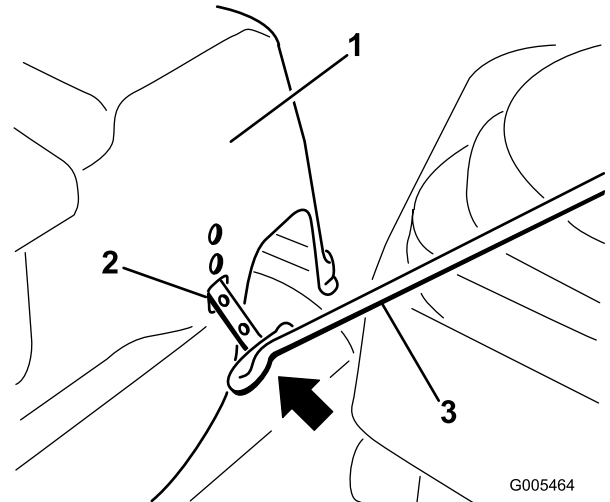

Figure 2
1. Locate the square opening on the interior side of the right hand pod. Insert the end of the cover rod into the square opening at an angle as shown in Figure 2. Make sure the rod is orientated so the bends in the rod face forward to accept the retainer straps.